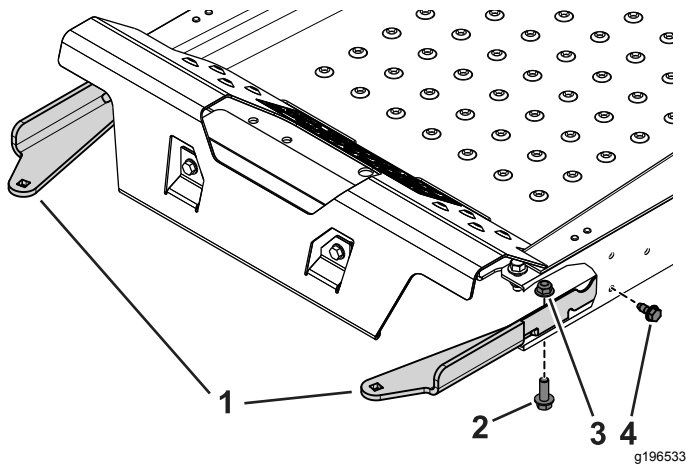

Figure 3
2. Use the 2 self-tapping bolts (5/16 x 3/4 inch), 2 bolts (3/8 x 1-1/4 inches), and flange nuts (3/8 inch) to secure the left and right weight-tray mounts to the machine (Figure 3).